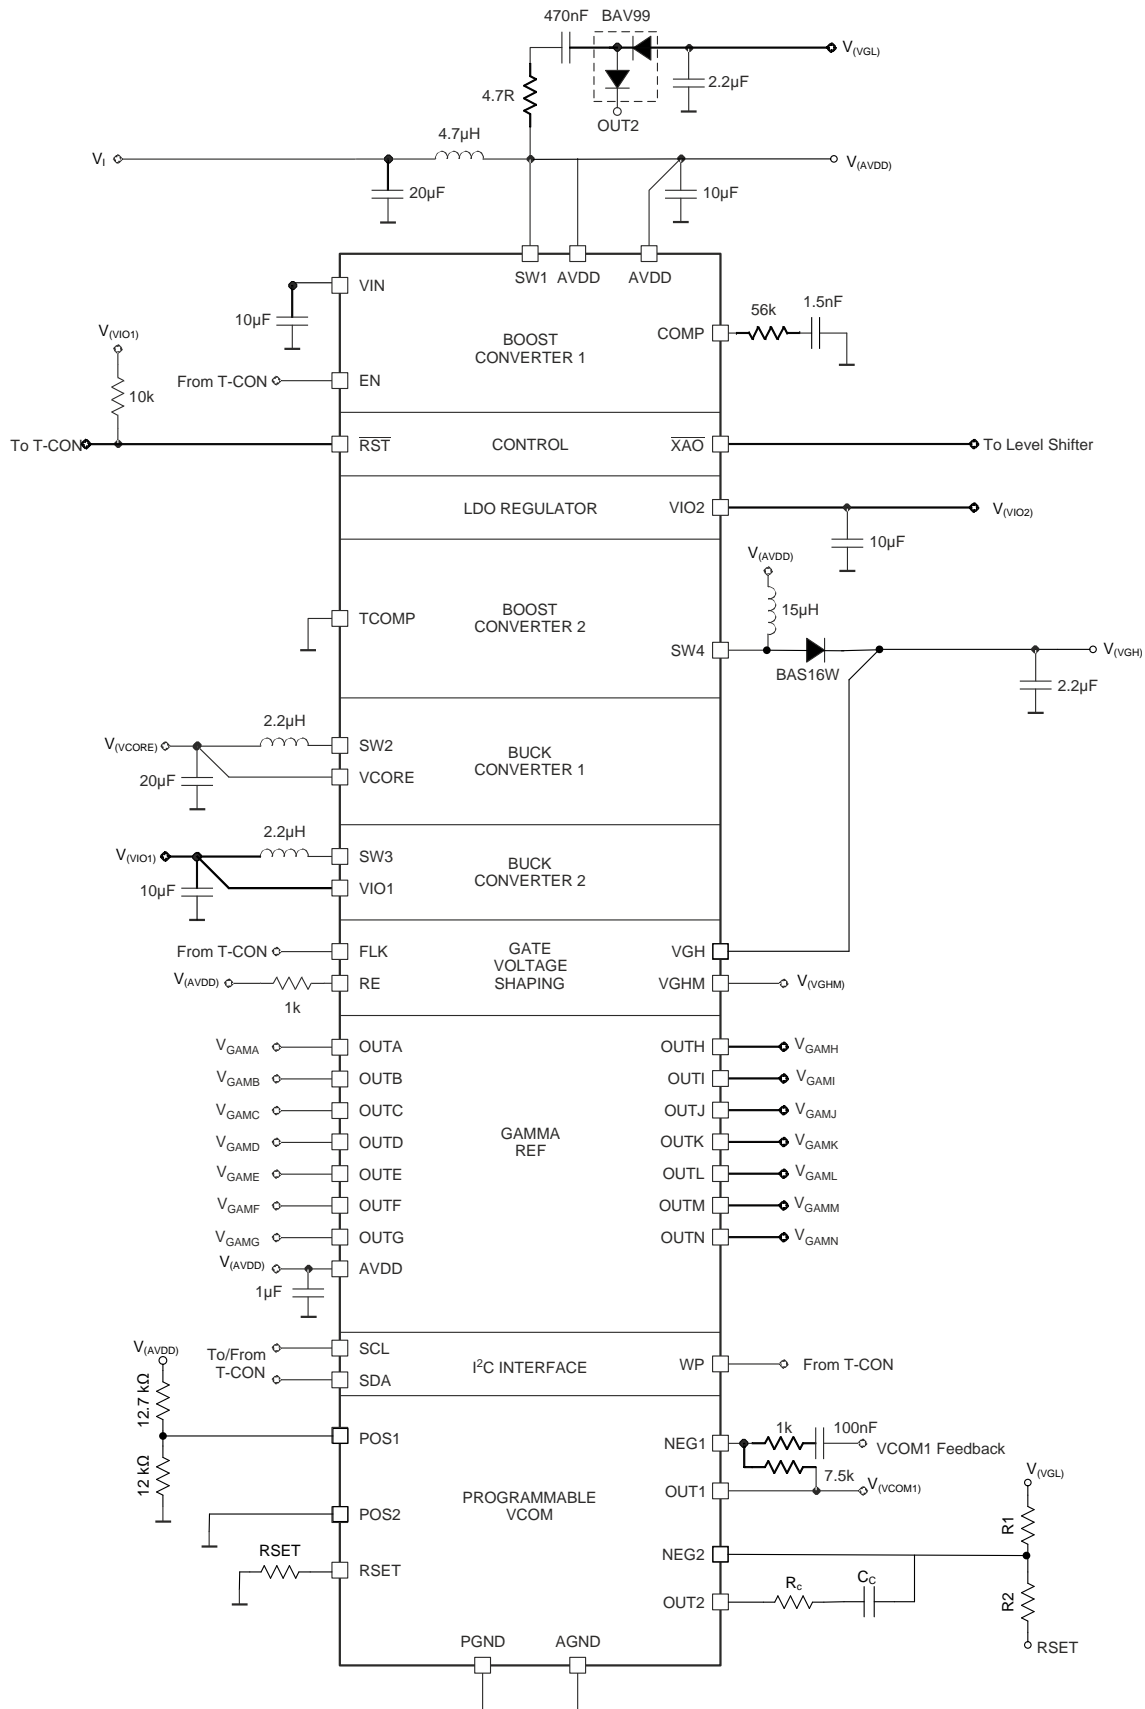

Figure 1. TPS65642A Application Circuit With Regulated VGL
**Figure 1** shows the TPS65642A in a typical application circuit including the regulated negative charge pump with the following design parameters: